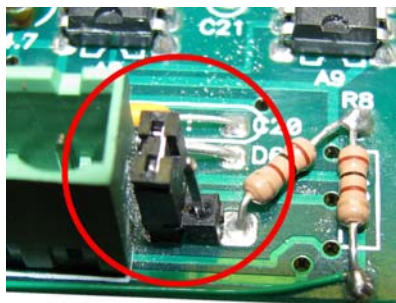
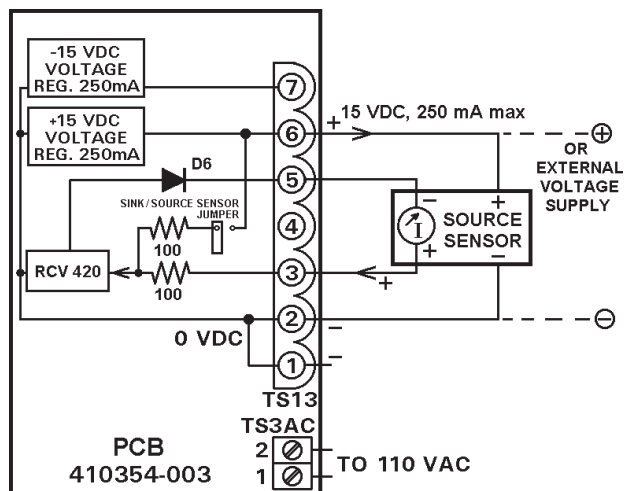
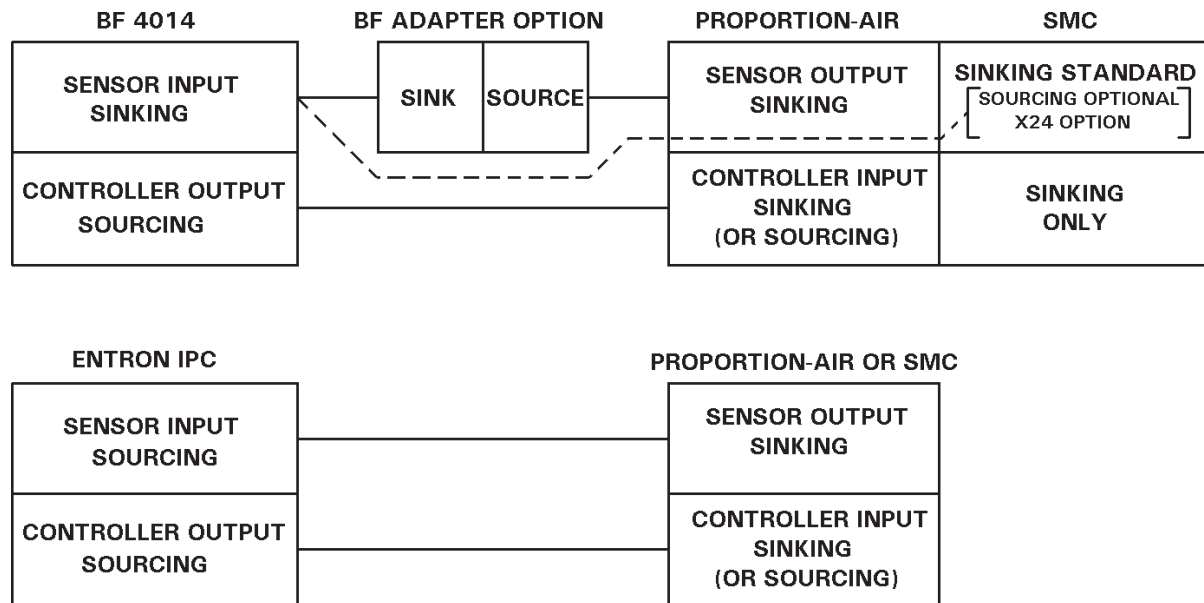

Figure 7-8. Sourcing Sensor Jumper detail
Figure 7-7. 410354-003 Sourcing Sensor Wiring Logic
Figure 7-11. Sinking/Sourcing Block Diagram
When customer provides a Sourcing Sensor, use information in Figure 7-7 to wire to IPS Option PCB 410354-003 or IPSC Option PCB 410354-004, removing Jumper J1 (see also Figure 7-8).
* For customers using Sourcing or Sinking Sensor, see Figures 7-7, 7-8, 7-9, and 7-10 (in Section 7.4) and Figure 7-11 (in Section 7.5) for more details.
* For customers using Sourcing or Sinking Sensor, see Figures 7-7, 7-8, 7-9 and 7-10 (in Section 7.4) and Figure 7-11 (in Section 7.5) for more details.